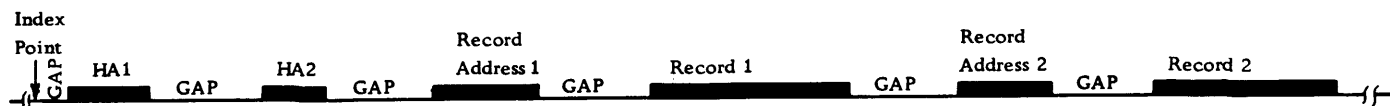

Figure 5. Drum Track Address and Data Arrangement
A data track and the data to be written or read from a track are identified by means of a home address 1 (HA1), a home address 2 (HA2) and as many record addresses (RA) as there are record areas to be established on the data track (Figure 5).
Each record area established for a data track is preceded by a record address (RA) (Figure 5). The record address consists of 6 or more characters, which may be numeric, alphabetic, or special characters. They are assigned and written by the user to fit any convenient addressing scheme. A record address need not have any relationship to the home address of the track where it is written. When the record address (6 characters) is verified, only the numeric portion (4 low-order bits) of the first 4 characters is verified. All bits of the last 2 characters are checked during address verification operations. Characters of a record address exceeding 6 in number are not verified. Because of the ability of the 7320 Drum Storage to store different length records, highly efficient use of drum storage and flexibility of data organization are provided.